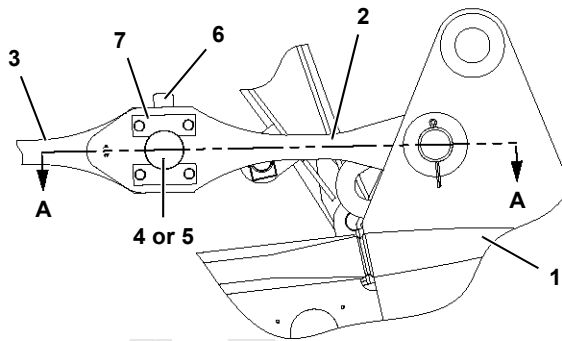

FIGURE 4-41
If desired for duty-cycle operation only, load pins (4, Figure 4-41) in boom top (1) can be replaced with standard pins (5).